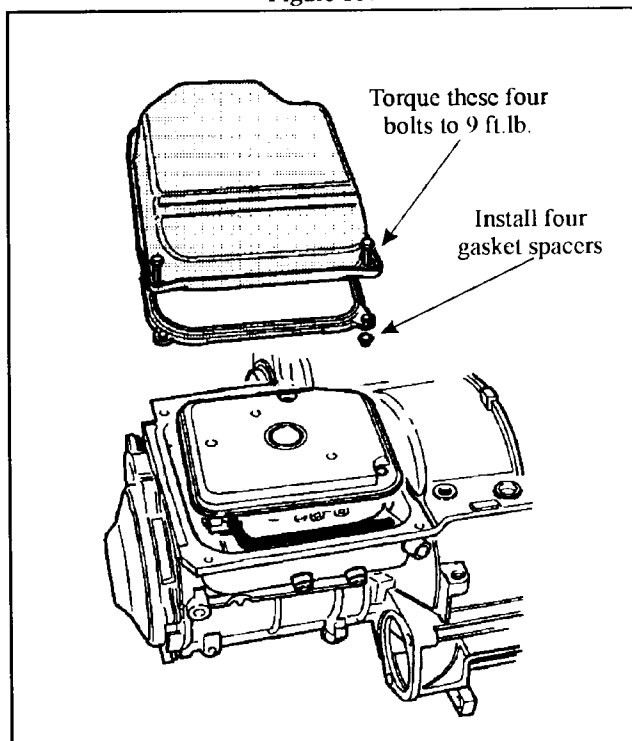

Figure 168
43. Install a new pan gasket onto the transmission. Make sure to install the four spacer bushings into the gasket when installing (See Figure 168).